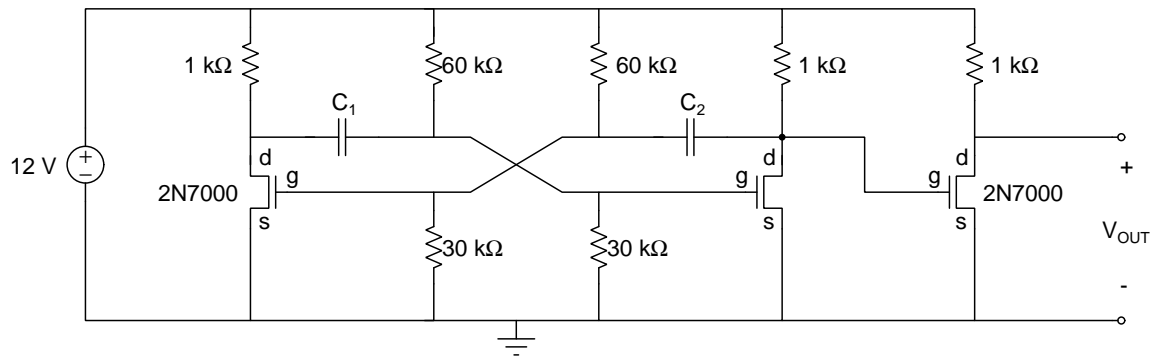

Figure 3: Astable multivibrator oscillator circuit of Figure 2 with an added 2N7000 transistors used as an output buffer.
4. The shape of the output signal can be improved by reducing the amount of capacitance on the output node. Add a third transistor to the circuit, to act as a buffer, as shown in Figure 3. This third transistor will invert the output signal. Hence you will need to switch capacitors C_1 and C_2 to maintain the same duty cycle at the output.